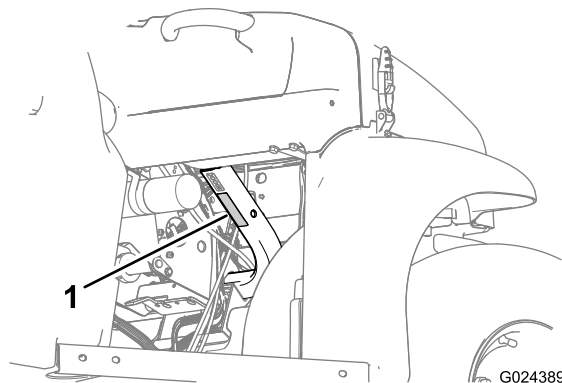

Figure 22
- Observe the weight capacity of the machine and limit the weight of the load that you carry in the cargo box as described in Specifications \(page 16\) and on the gross vehicle weight tag of the machine (Figure 22).